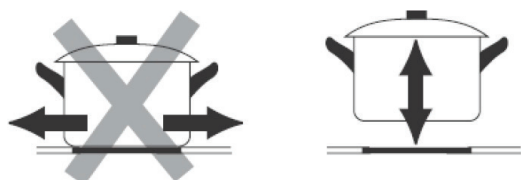

Fig. 3
- Coarse bottoms of cookware could scratch the ceramic glass plate. Check the cookware bottom regularly. Cookware with coarse bottom can cause scratches of the hob. Always lift these objects up when you have to move them on the cooking surface (Fig. 3), To protect the hob from being scratched.